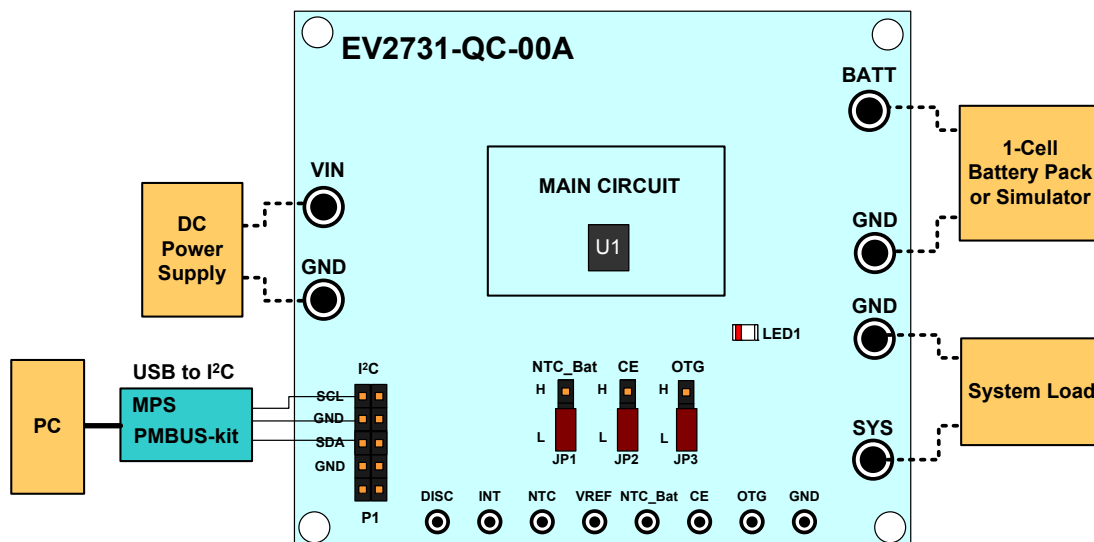

Figure 2: Test Set-Up for the MP2731
4. Configure the test set-up for the MP2731 (see Figure 2).